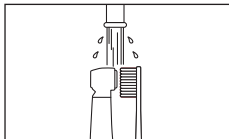

Fig. 11
- 1) Clean the external surfaces of the handpiece with a soft bristled toothbrush for 15 seconds or more. (Fig. 11)